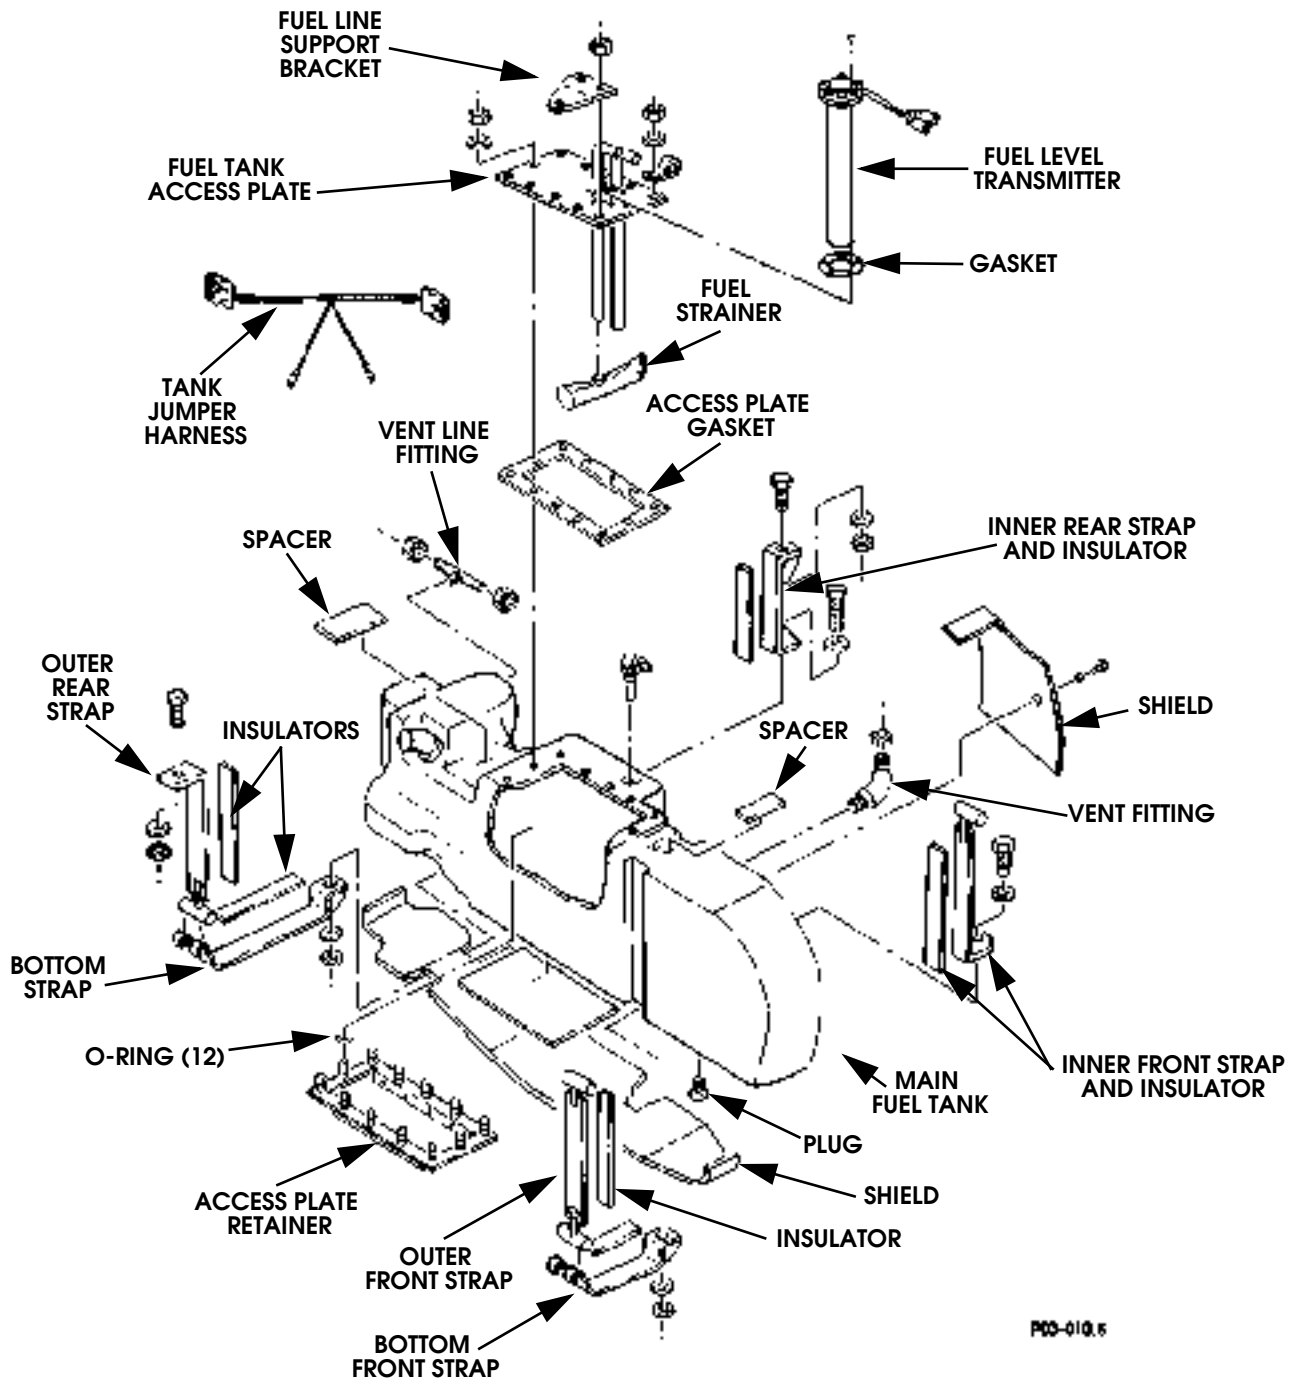

Figure 3-34: Fuel Tank and Components
The fuel level transmitter, vents, and access plate can all be serviced once the tank is out of the vehicle (Figure 3-34).
9. Replace fuel level transmitter and access plate (Figure 3-34). Refer to next procedure in this section.
1. Remove screws, lockwashers and fuel level transmitter from tank access plate (Figures 3-34 and 3-35).
2. Place new O-rings on access plate retainer studs and position access plate retainer in tank (Figures 3-34 and 3-35).